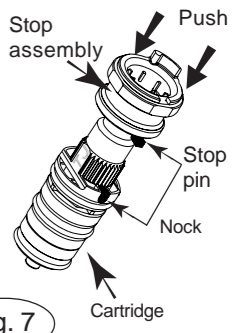

Fig. 7
- Install the "stop assembly" home on the cartridge, adjusting the stop pin in the notch (fig. 7).